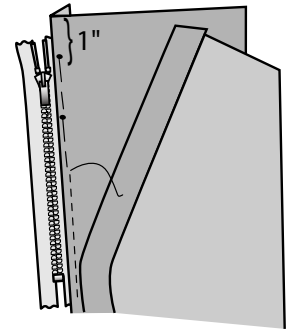

Figure 9
2. Place the fabric close to the zipper teeth. Pin or hand baste the zipper to the underlap. If you use pins, place them parallel to the zipper; positioning top of zipper teeth 1 inch down at the top of the neckline opening (5/8-inch seam plus 3/8-inch for a fastener). (Figure 9)